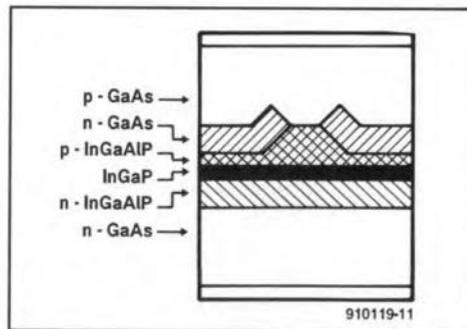

Fig. 1. Layer construction of the new Toshiba laser diodes.
The (index-based) construction of the TOLD9220 is shown in Fig. 1. Its major parameters (at 25 °C) are
An artist's impression of a cross-sectional view of the diode is shown in Fig. 3. The laser diode chip (A) is the semiconductor crystal shown in Fig. 1. Although the photodiode is contained in the same housing, the whole construction is referred to as the 'laser diode'. The construction is typical of CW diodes, which nowadays are produced in far greater numbers than pulse lasers.